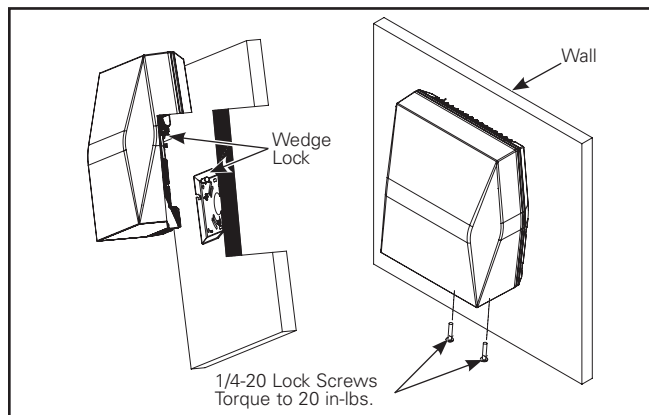

Figure 5.
6. Tighten the two ¼-20 Phillips head screws on the fixture to 20 in-lbs. (Figure 5.)